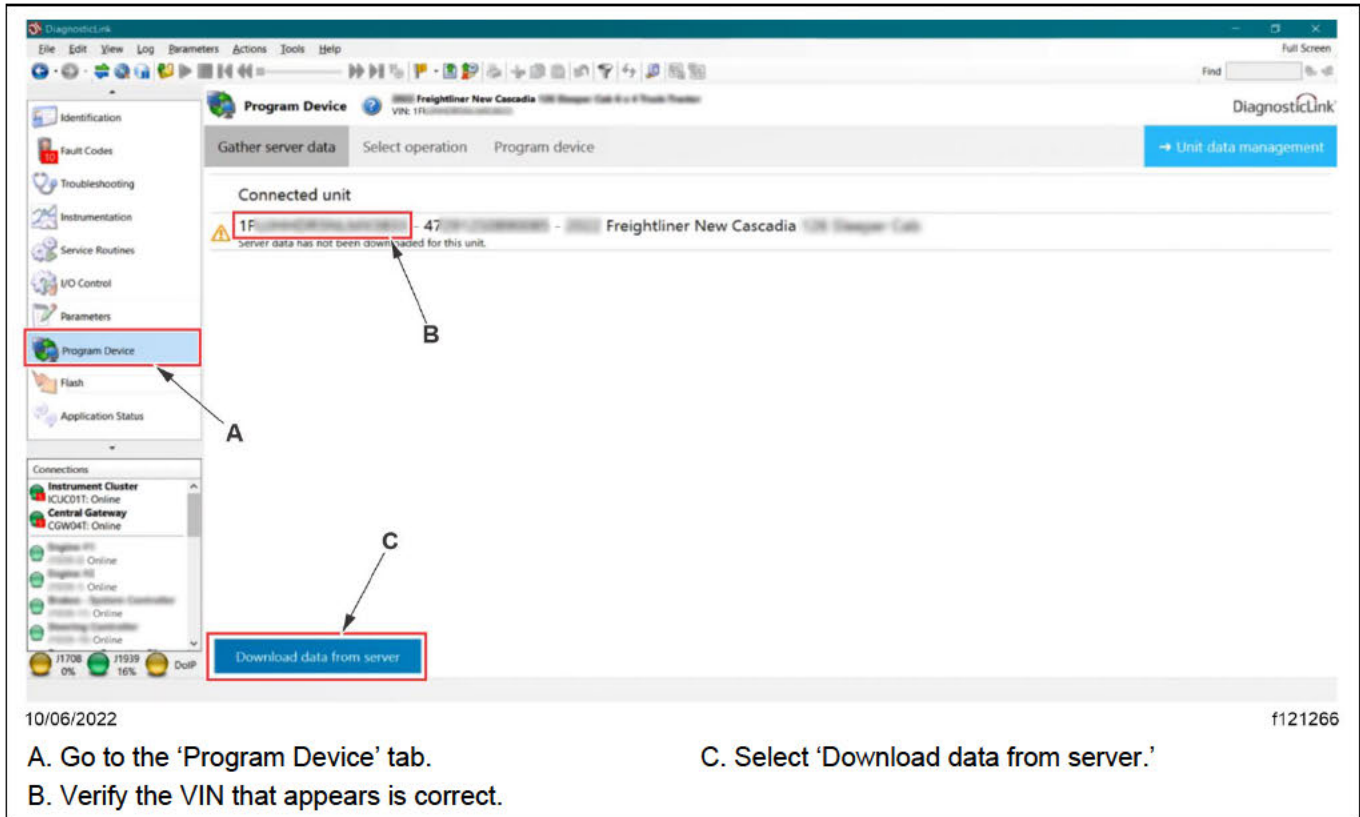

Fig. 2, Downloading the Data from the Server
- Go to the 'Program Device' tab, and make sure that the Vehicle Identification Number (VIN) that appears is correct. Select 'Download data from server.' See Fig. 2.